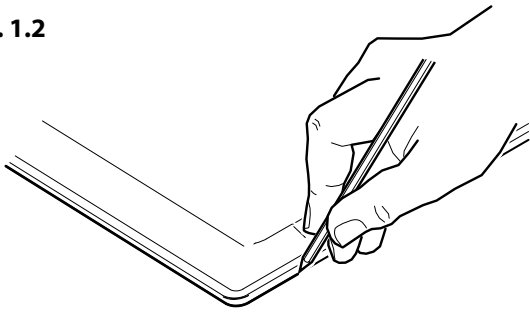

Fig. 1.3
2. Using the sink position as a rough template, mark the cutout as per dimensions (Fig. 1.3, 1.3a, 1.4, or 1.4a dependent on sink). Choose the correct cut-out template dependent on the sink you are installing.